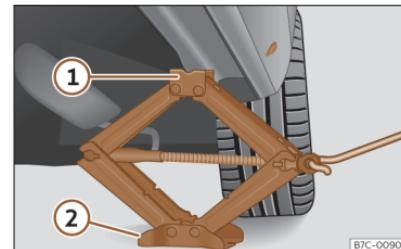

Fig. 208 Crossbar: mounting the jack on the vehicle.
- Turn the jack crank handle, located below the crossbar support point, to raise it until the tab ① >>> **Fig. 208** is below the housing that is provided.
- Align the jack so that the tab ① "grips" onto the housing provided on the cross member and the mobile base ② is resting on the ground. The base plate ② should fall vertically with respect to the support point ①.